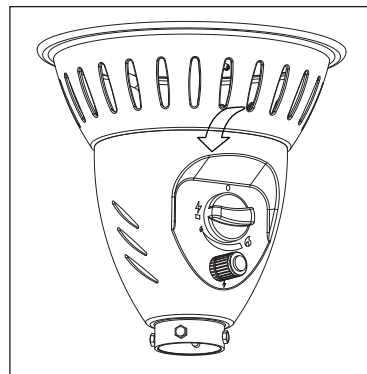

Figure 2
4. Push control knob in and rotate counter clockwise to “PILOT” (⚡) position (Figure 2).